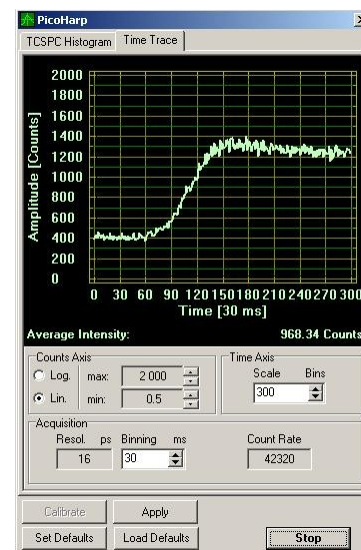

Fig. 2.3: Time Trace oscilloscope window. The easiest adjustment is reached with a binning time of 30 ms.
7. Activate the **oscilloscope window** in the SymPhoTime software () and select the **Time Trace - tab** (Fig. 2.3). Important is the setting of a **linear Count Axis**. Start the oscilloscope measurement by clicking the Start - icon. The amplitude axis can be adapted by scrolling with the mouse wheel button in case the cursor is placed on the oscilloscope window. **Be careful to avoid damaging of the detector with too high light intensity!**
8. Reduce the laser power in order not to oversaturate the detectors. Start with attenuation OD3. It is important that the **scaffold is completely open**, use only the filter wheel for attenuation of OD1 up to OD3 and the laser intensity adjustment at the laser driver. Place a **scattering sample** (e.g. the surface of a cover slide or better a mirror) in the laser focus on the microscope stage and focus for highest count rate. Adjust the count rate adapting the laser intensity to around 50 kilo counts / second as shown in Fig. 2.3.